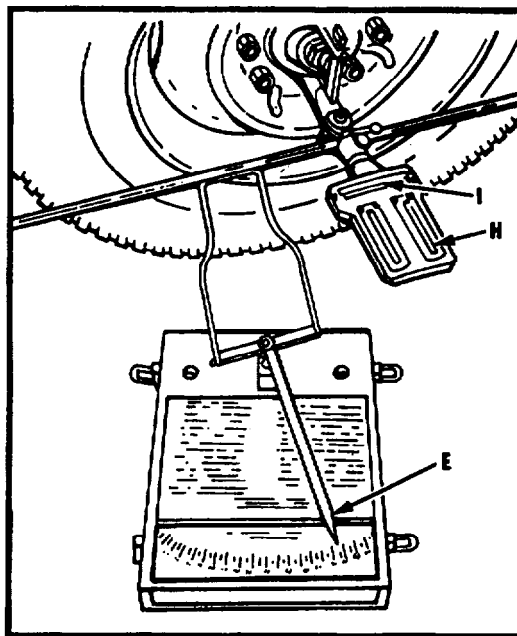

Figure 6.
- Step 6. Swing front of left wheel outward, all the way, until turning radius pointer, E, Fig. 6 reads 20° in opposite direction. (From 20° in to 20° out).
- Step 7. Now read caster angle on caster scale, H, Fig. 6. Positive caster is indicated if bubble has moved from zero toward wheel. Negative caster is the opposite.
- Step 8. Read steering axis inclination angle on steering axis inclination dial, I, Fig. 6